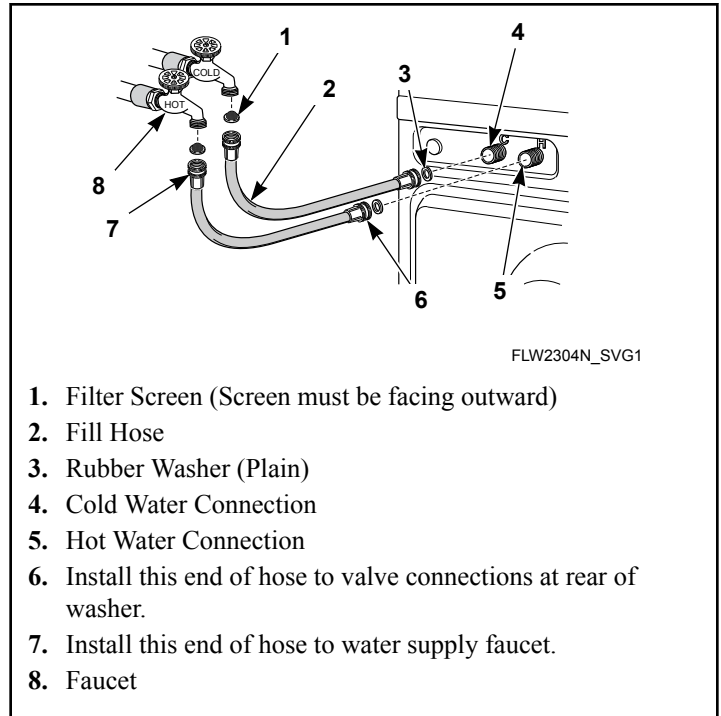

Figure 7
2. Install them into each end of the fill hoses as shown in *Figure 7*. The screen must be facing outward.
mixing valve marked “H” and the blue color-coded hose from the cold faucet goes to the valve marked “C”. Refer to *Figure 7*.